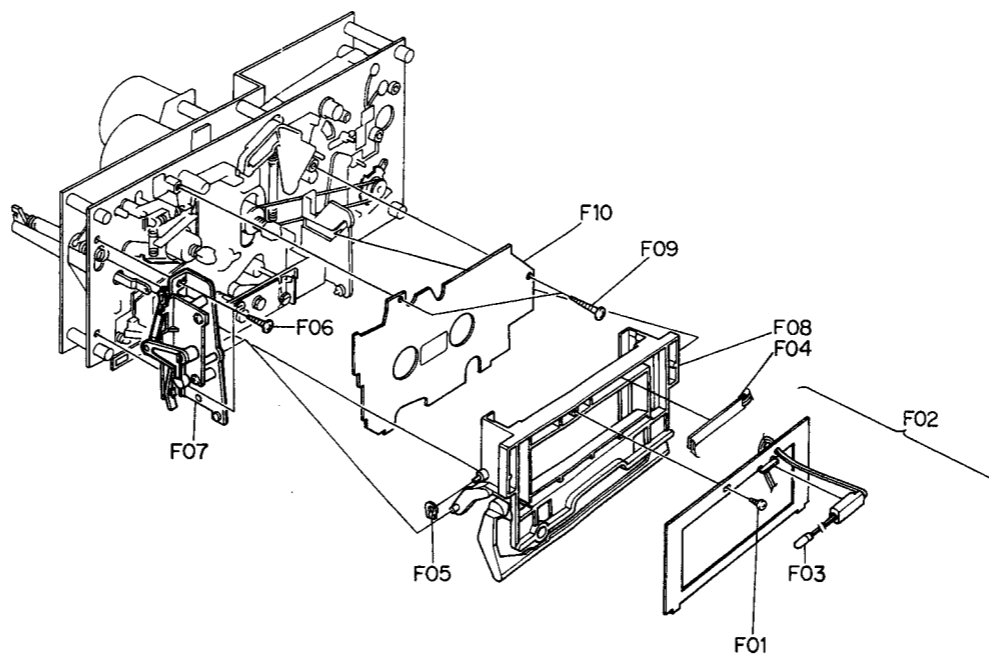

Fig. 2.6
Refer to Fig. 2.6.
- (1) Refer to Fig. 2.6. Remove Cassette Case Ass'y referring to item 2.14.
- (2) Remove F01, then disassemble F02 (Head Mount Base Ass'y).